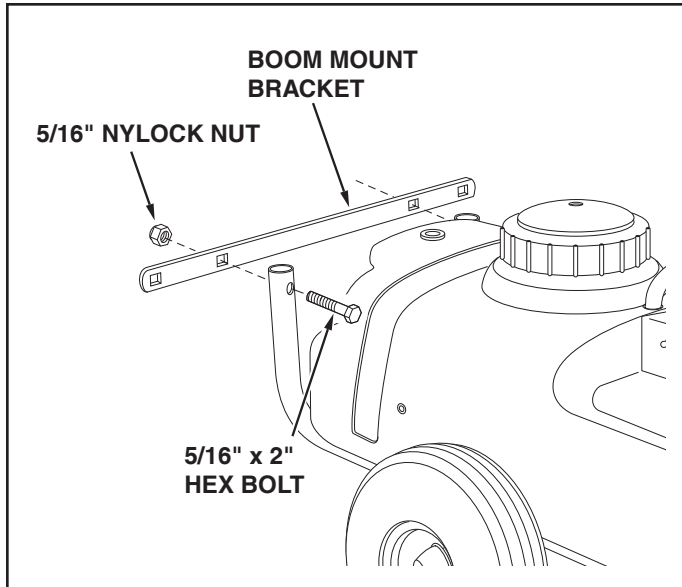

FIGURE 4
- Assemble the boom mount bracket to the rear of the hitch tubes using two 5/16" x 2" hex bolts and 5/16" nylock nuts. See figure 4.